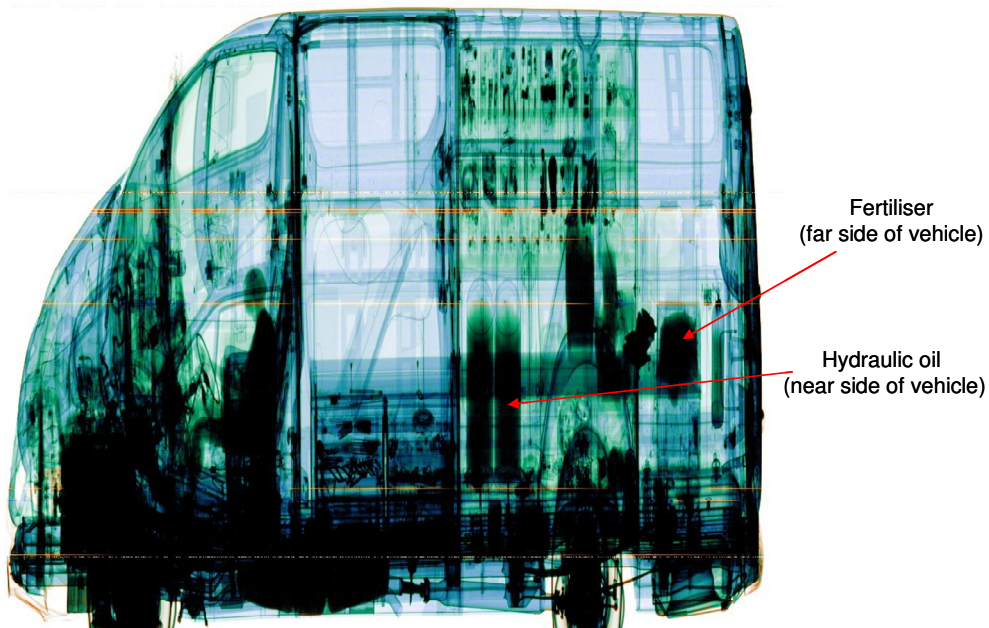

Figure 6. Material Separation Image
**Material Separation.** With the optional Rapiscan material separation technology, low atomic number and high atomic number materials appear differently in the X-ray image. This capability enables low density contraband, such as explosives and drugs, to be distinguished from high density materials, such as steel. The example material separation X-ray image presented in Figure 6 shows a typical van with fairly cluttered contents. The image is coloured such that high Z (steel) items appear blue, while Low Z items are coloured in green. The optional material separation capability also requires a dual-energy detector set to be fitted.